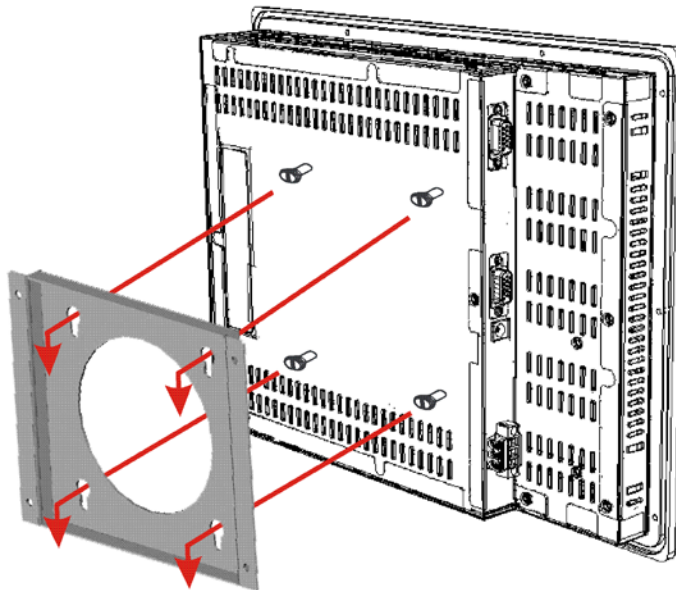

Figure 5-20: Wall Mounting the Monitor
- Step 8:** Carefully insert the screws through the holes and gently pull the monitor downwards until the monitor rests securely in the slotted holes (**Figure 5-20**). Ensure that all four of the mounting screws fit snugly into their respective slotted holes.